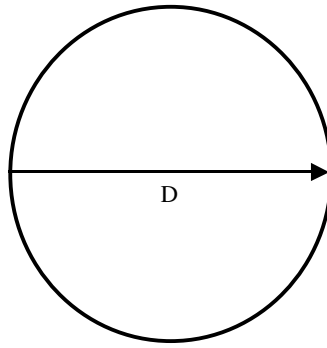

FIGURE 11.3 Circumference.
The *circumference* (C) is the length of the outer border of a circle. The circumference is found by multiplying pi (π) times the *diameter* (D) (diameter is the length of a straight line passing through the center of a circle; see Figure 11.3).